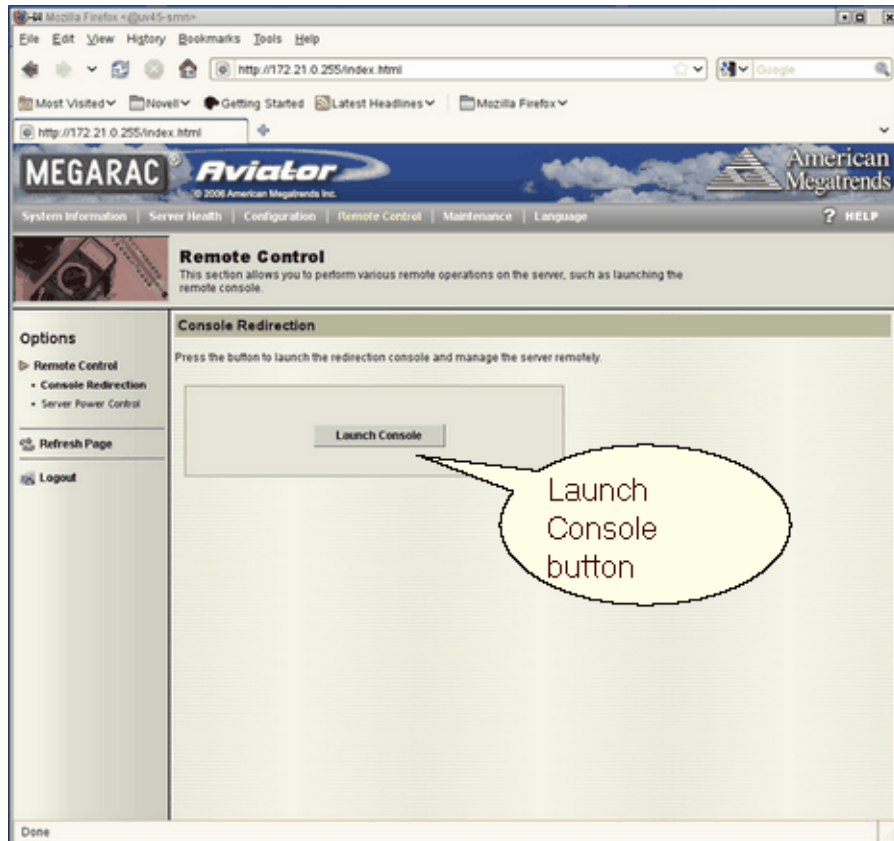

Figure 3-4 BMC Remote Control Console Redirection Screen
7. The **Console Redirection** screen appears, as shown in Figure 3-4 on page 39. Click on the **Launch Console** button.